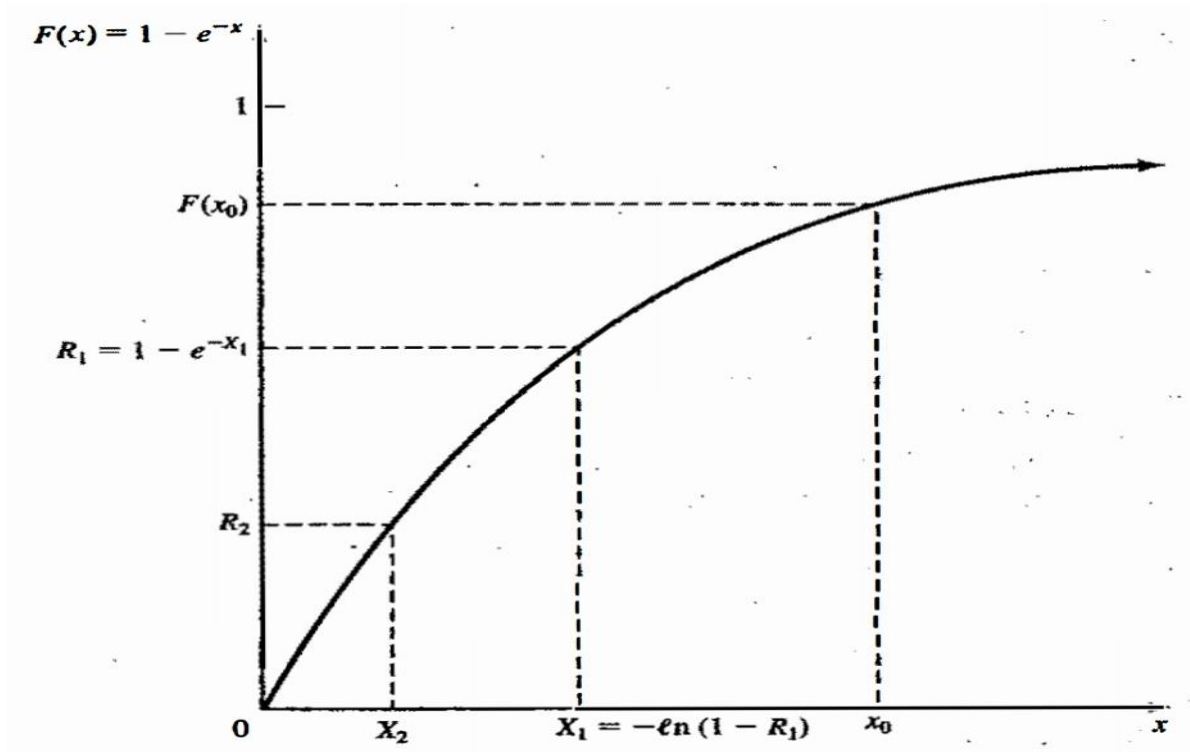

Figure 8.2 Graphical view of the inverse-transform technique
- Figure 8.2 gives a graphical interpretation of the inverse-transform technique. The cdf shown is $F(x) = 1 - e^{-x}$, an exponential distribution with rate $\lambda = 1$.
- To see the first equality in Equation (8.4), refer to Figure 8.2, where the fixed numbers x_0 and $F(x_0)$ are drawn on their respective axes. It can be seen that $X_1 \leq x_0$ when and only when $R_1 \leq F(x_0)$.